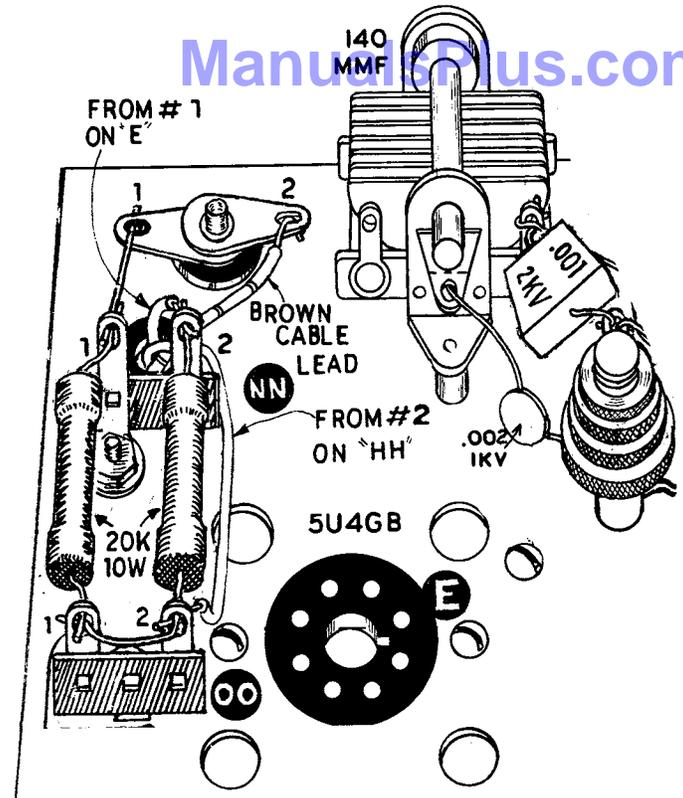

Figure 13
- () Trim the leads on a .002 μ f disc capacitor to 3/8" long. Connect one end to #1 on MM (NS). Connect the other end to #2 on MM (NS).
- () Trim the leads on a (white dot) line choke to 5/8" long. Connect one end to #2 on LL (NS). Connect the other end to #1 on MM (S-3).
- () Trim the leads on a .002 disc capacitor to 3/8" long. Connect one end to #3 on LL (NS). Connect the other end to #2 on LL (S-3).
- () Trim the leads on a .002 disc capacitor to 3/8" long. Connect one end to #3 on MM (NS). Connect the other end to #2 on MM (S-3).
- () Trim the leads on a (white dot) line choke to 3/4" long. Connect one end to #3 on MM (S-3). Connect the other end to #4 on LL (NS).
- () Trim the leads on the 20 Ω 1% precision resistor to 1/2" long. Connect one end to #1 on terminal strip II (NS). Connect the other end to #2 on II (NS).
- () Trim the leads on a .002 μ f disc capacitor to 3/8" long. Connect one end to #1 on II (S-2). Connect the other end to #2 on II (NS).
- () Cut a piece of green hookup wire to 10" long. Trim the insulation off the ends 1/4". Connect one end to #2 on II (NS). Run the other end close to the chassis and up to the front apron toward the operation switch, and down through the 3/8" grommet, to be connected later.
- () Cut a piece of gray hookup wire to 4" long. Trim the insulation 1/4" off the ends. Connect one end to pin #1 on socket E (NS). Run the other end close to the chassis and down through the 5/16" grommet next to the pilot light socket. Connect this end to #2 on terminal strip NN (NS). See Pictorial 2 and Figure 13.
- () Cut a piece of gray hookup wire to 5 1/2" long. Trim the insulation 1/4" off the ends. Connect one end to #2 on HH (NS). Run the other end down the 5/16" grommet next to the pilot lamp socket and connect to #2 on terminal strip OO on the top side of the chassis (NS). See Pictorial 2 and Figure 13.
- () On the top side of the chassis, connect one end of a 1 1/2" piece of #20 bare wire to #1 on terminal strip NN (NS). Connect the other end to #1 on the pilot light socket (S-1). See Figure 13.
- () Trim one lead on a 20 KΩ 10-watt resistor to 1/2" long. Thread the longer end through #2 then #1 on terminal strip OO (NS). The short end connects to #2 on terminal strip NN (NS). Position the resistor body an equal distance between NN and OO, then solder #2 on NN and #2 on OO.
- () Trim one lead on a 20 KΩ 10-watt resistor to 3/4" long and the other to 1/2" long. Connect the 3/4" end through #1 on NN and the other 1/2" end through #1 on OO. Align the resistor body neatly as shown in Figure 13. Then solder both connections.